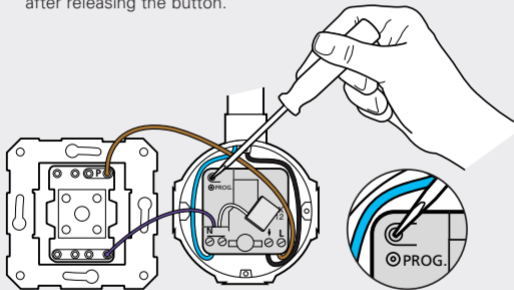

Figure 10. Activating and deactivating the programming mode.
- Press the programming button for at least three seconds (see Figure 10). The red LED will light up and stay on after releasing the button.